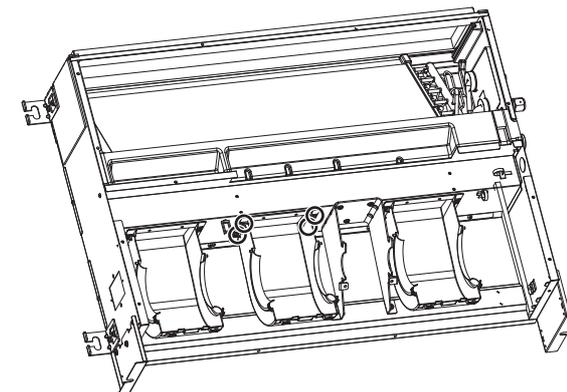

Fig. 13
- (3) Remove the fan case fixing screws to take the top half of the fan casing off. (Fig. 13)